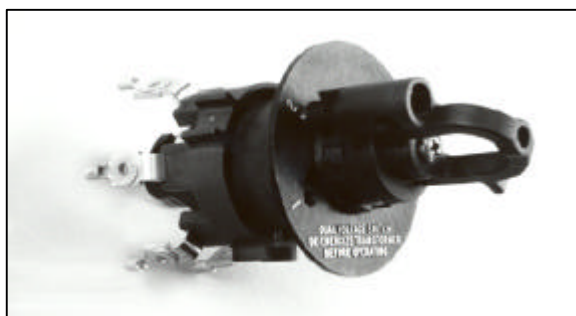

Fig. 11 Externally Operated Dual Voltage Switch
7. Dual Voltage Switch (See Fig. 11)